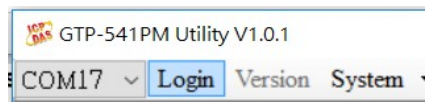
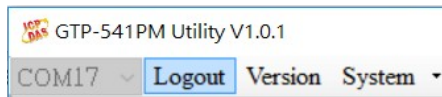

Figure 6.10.2
Figure 6.10.3
- B. Click “Login” on the Utility screen. As shown in Figure 6.10.2, if the connection is successful, the “Login” button will change to “Logout”, as shown in Figure 6.10.3
- N. Pull the 4th pin and the 5th pin on the GTP-541M to connect as shown in Figure 6.10.3 4, and restart GTP-541M.